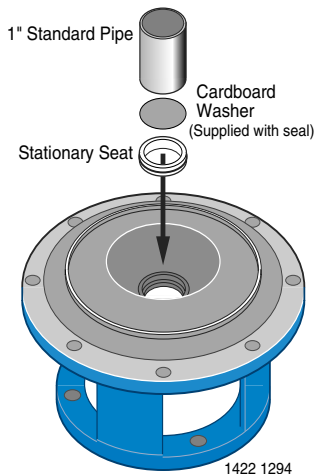

Figure 5
5. If seal does not seat after re-cleaning adapter/seal plate cavity, place a cardboard washer over polished face of seal and **carefully** press into place using a piece of 1" standard pipe as a press (Figure 5).